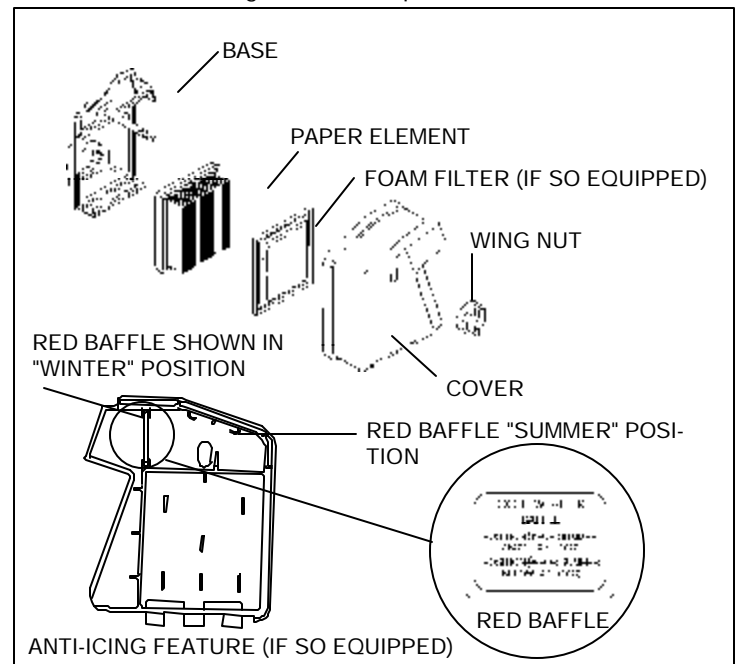

Figure 6
- A. **TO REMOVE AND INSTALL FILTER(S)**(see Figure 6):
- B. **TO SERVICE FILTER(S)**(see Figure 6):
IN TEMPERATURES 32°F (0°C) AND BELOW: (See figure 6)